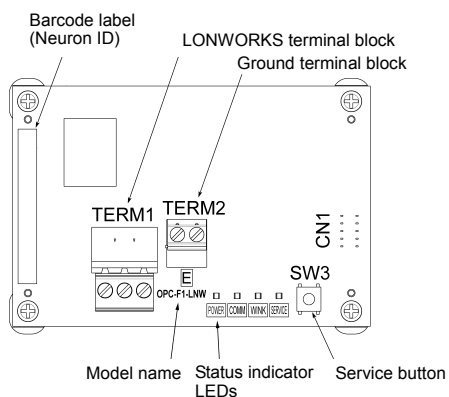

Figure 1 Front of the Card
- (1) A LONWORKS interface card is contained in the package.
- (2) The card has not been damaged during transportation--no defective electronic devices, dents, or warp.
- (3) The model name "OPC-F1-LNW" is printed on the card. (See Figure 1.)
- (4) A barcode label (representing Neuron ID) is attached to the card. Another barcode label (not attached to the card) comes with the card.